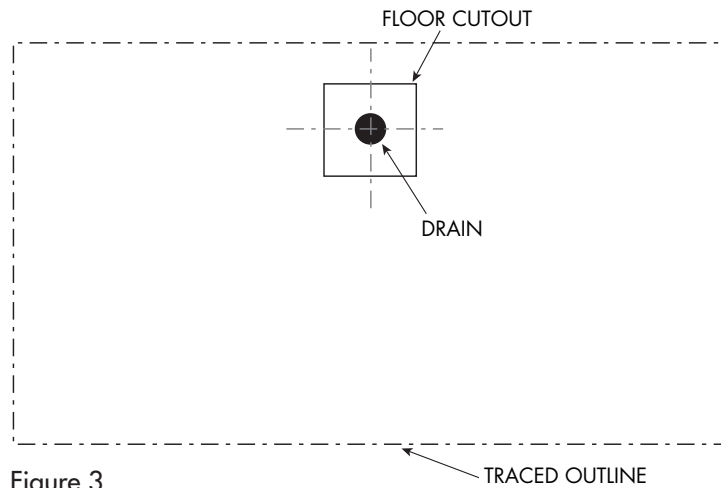

Figure 3
6. Remove the tub. Using the traced outline for reference, confirm that the drain/waste outlet in the floor will align with the tub drain outlet (See Figure 3)